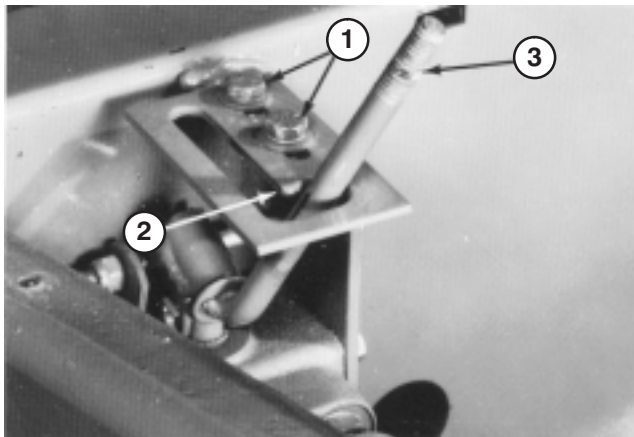

Figure 48
3. Loosen two capscrews on top of the lift lever latch (Fig. 48). Place lever on rounded tip of latch (Fig. 48), and slide latch w/lever forward until stopping resistance is felt. Then tighten capscrews to lock the latch in place. Check for free operation of the lift lever by moving lever from RAISE or TRANSPORT to FLOAT position. Lift lever should just clear rounded position of latch as lever is moved into FLOAT position.